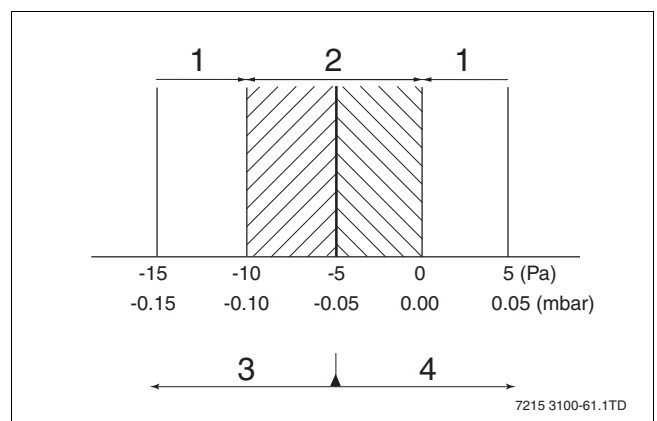

Fig. 61 Pressure difference of gas/air ratio at partial load
- The optimum gas/air ratio is -5 Pa (-0.05 mbar). The pressure difference should be between -10 and 0 Pa (→ fig. 61).
- Adjust the adjustment screw of the burner pressure to the correct gas/air ratio using an (4 mm) Allen key and by referring to fig. 61.